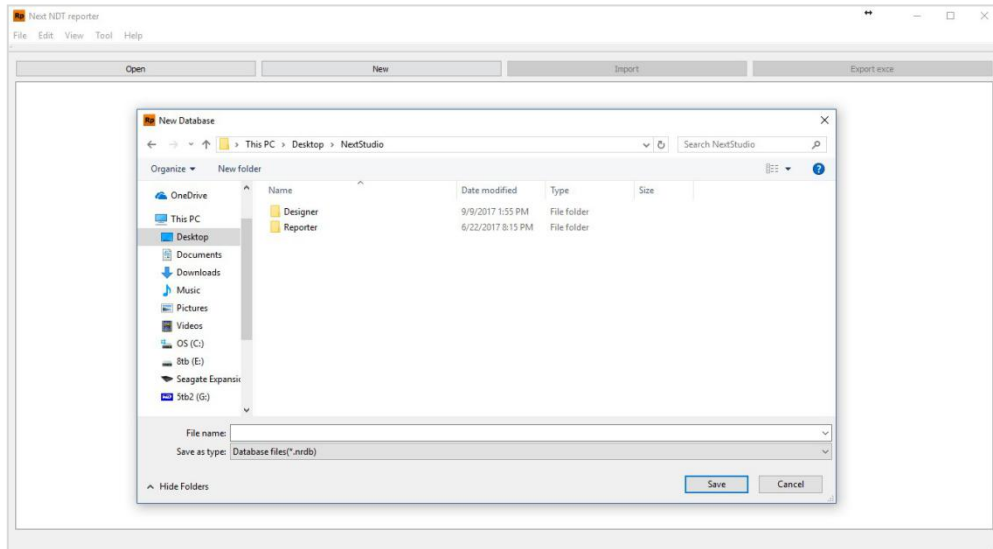

Fig. 36 To create new blank database for importing
- Click on the  button to create a new blank database for the importing inspection data. Fig.36
- Input the name for this new database. Fig.36
- Click on “Save” to save the new blank database. Fig.36
- Click on the “Import” button to start importing data. Fig.36
- Choose the inspection data in the USB flash drive directory to start the import process. Fig.36